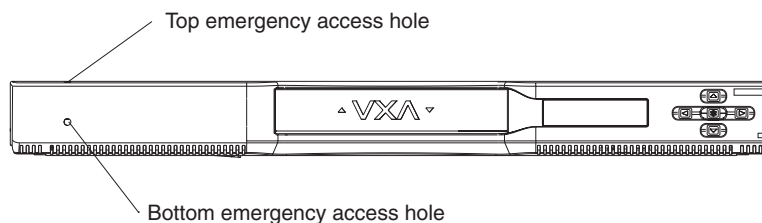

Figure 19. Access hole locations
For security, you can block access to the gear shaft from the hole in the front of the faceplate. A screw that is accessible from the hole in the top of the faceplate (see Figure 19) can be lowered in front of the gear shaft. To lower this screw, use a small Phillips screwdriver to turn the screw clockwise until it blocks access to the gear shaft.
- \_\_\_ 1. Carefully insert a small Phillips screwdriver into the access hole (see Figure 19) on the top front of the autoloader. Unscrew the security blocking screw.
- \_\_\_ 2. Carefully insert a small Phillips screwdriver into the access hole (see Figure 19) on the front of the autoloader. Make sure that the screwdriver engages the head of the gear shaft.